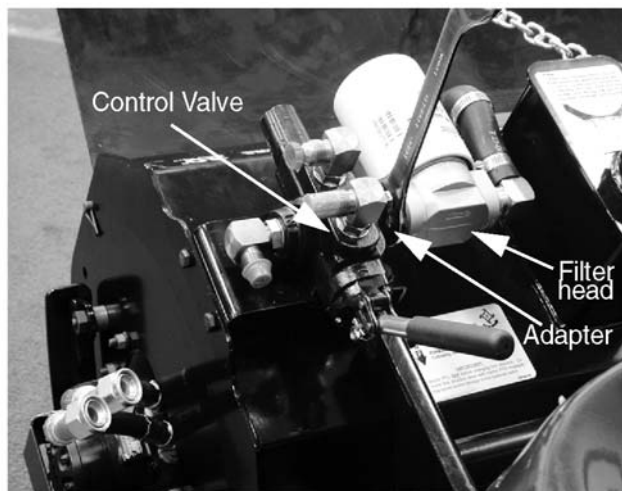

Figure 8-85.
6. Loosen the adapter, located between the control valve and filter head, from the filter head using a 1" wrench. See Figure 8-85.